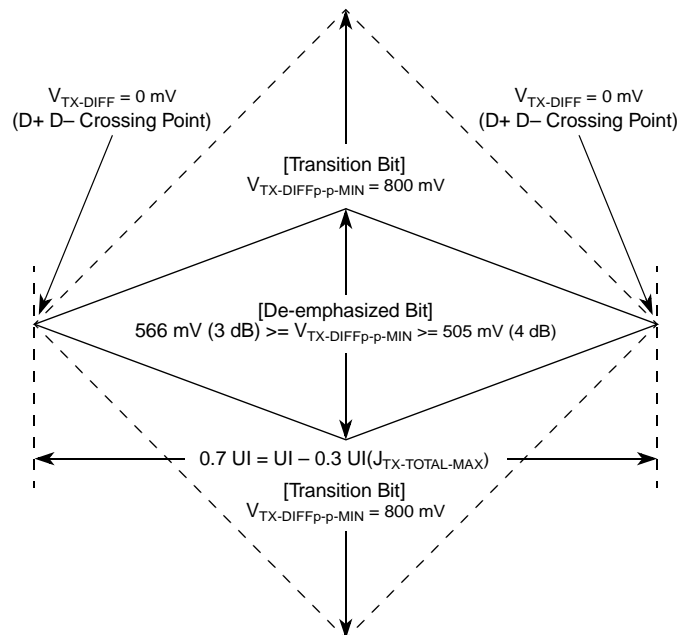
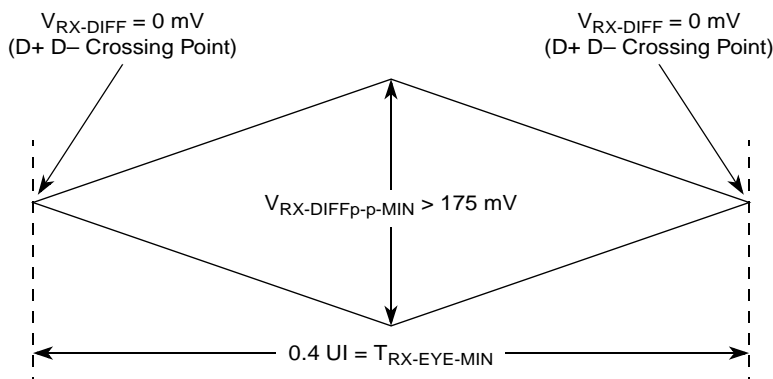
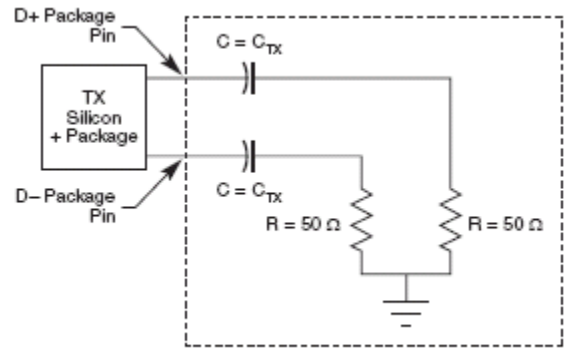

Figure 49. Minimum Transmitter Timing and Voltage Output Compliance Specifications
Figure 50. Minimum Receiver Eye Timing and Voltage Compliance Specification
Figure 51. Compliance Test/Measurement Load
2. Specified at the measurement point into a timing and voltage compliance test load as shown in Figure 51 and measured over any 250 consecutive TX UIs. (Also refer to the transmitter compliance eye diagram shown in Figure 49.)
4. The transmitter input impedance shall result in a differential return loss greater than or equal to 12 dB and a common mode return loss greater than or equal to 6 dB over a frequency range of 50 MHz to 1.25 GHz. This input impedance requirement applies to all valid input levels. The reference impedance for return loss measurements is 50 Ω to ground for both the D+ and D- line (that is, as measured by a vector network analyzer with 50- Ω probes, see Figure 51). Note that the series capacitors, C_{TX} , is optional for the return loss measurement.
5. Measured between 20%–80% at transmitter package pins into a test load as shown in Figure 51 for both V_{TX-D+} and V_{TX-D-} .
The TX eye diagram in Figure 49 is specified using the passive compliance/test measurement load (see Figure 51) in place of any real PCI Express interconnect + RX component. There are two eye diagrams that must be met for the transmitter. Both diagrams must be aligned in time using the jitter median to locate the center of the eye diagram. The different eye diagrams differ in voltage depending on whether it is a transition bit or a de-emphasized bit. The exact reduced voltage level of the de-emphasized bit is always relative to the transition bit.
2. Specified at the measurement point and measured over any 250 consecutive UIs. The test load in Figure 51 should be used as the RX device when taking measurements (also refer to the receiver compliance eye diagram shown in Figure 50). If the clocks to the RX and TX are not derived from the same reference clock, the TX UI recovered from 3500 consecutive UI must be used as a reference for the eye diagram.
4. The receiver input impedance shall result in a differential return loss greater than or equal to 15 dB with the D+ line biased to 300 mV and the D- line biased to -300 mV and a common mode return loss greater than or equal to 6 dB (no bias required) over a frequency range of 50 MHz to 1.25 GHz. This input impedance requirement applies to all valid input levels. The reference frequency for return loss measurements for is 50 Ω to ground for both the D+ and D- line (that is, as measured by a vector network analyzer with 50- Ω probes, see Figure 51). Note that the series capacitors, C_{TX} , is optional for the return loss measurement.
The RX eye diagram in Figure 50 is specified using the passive compliance/test measurement load (see Figure 51) in place of any real PCI Express RX component. In general, the minimum receiver eye diagram measured with the compliance/test measurement load (see Figure 51) is larger than the minimum receiver eye diagram measured over a range of systems at the input receiver of any real PCI Express component. The degraded eye diagram at the input Receiver is due to traces internal to the package as well as silicon parasitic characteristics which cause the real PCI Express component to vary in impedance from the compliance/test measurement load. The input receiver eye diagram is implementation specific and is not specified. RX component designer should provide additional margin to adequately compensate for the degraded minimum Receiver eye diagram (shown in Figure 50) expected at the input receiver based on an adequate combination of system simulations and the return loss measured looking into the RX package and silicon. The RX eye diagram must be aligned in time using the jitter median to locate the center of the eye diagram.
The reference impedance for return loss measurements is 50 Ω to ground for both the D+ and D- line (that is, as measured by a Vector Network Analyzer with 50 Ω probes—see Figure 51). Note that the series capacitors, $C_{PEACCTX}$, are optional for the return loss measurement.
The AC timing and voltage parameters must be verified at the measurement point, as specified within 0.2 inches of the package pins, into a test/measurement load shown in Figure 51.